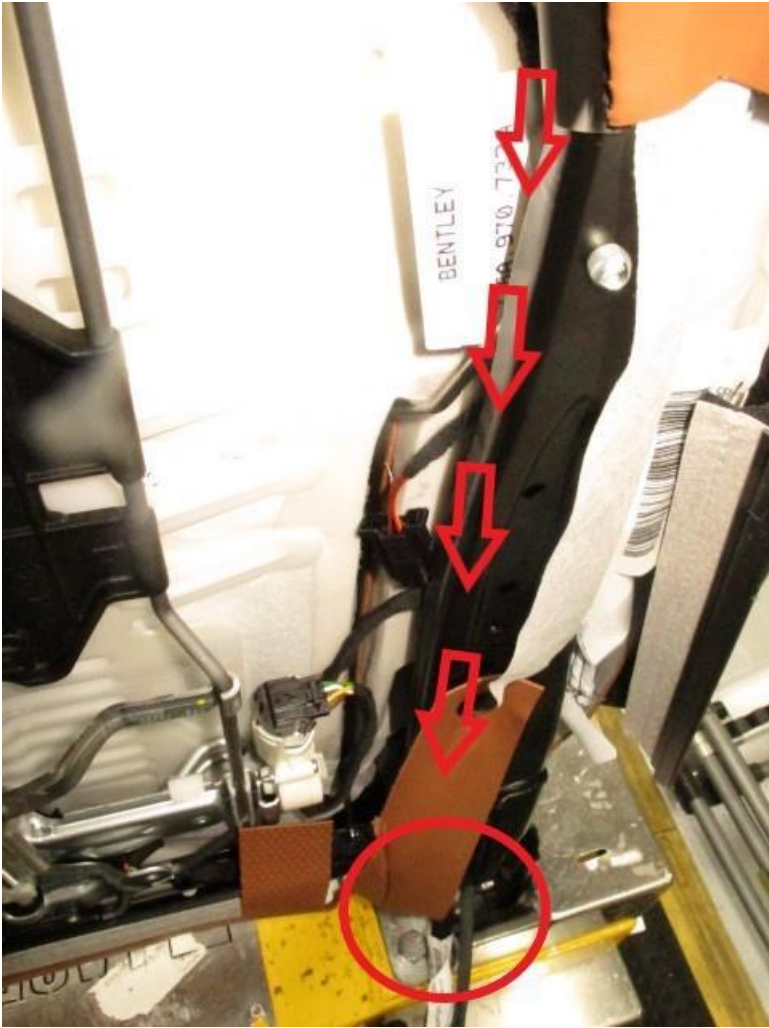

Figure 8
7) Referring to Figure 8 - Route the harness at the right hand outer side of the seat frame, the harness should exit the seat frame at the point shown (CIRCLE)